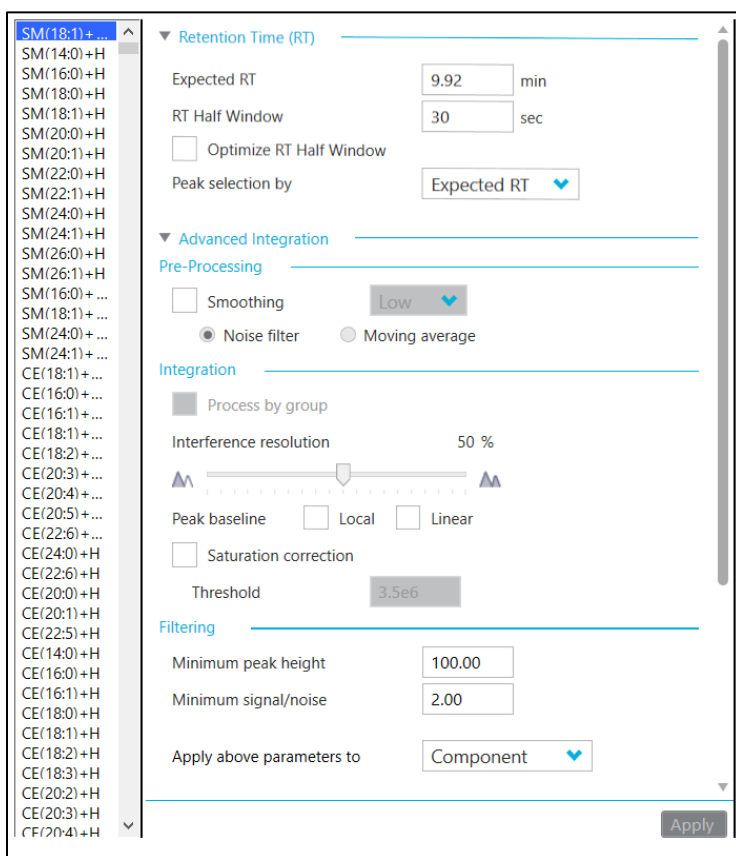

Figure 8-1. Integration defaults for data processing the targeted lipid profiling data.
2. Click Process Method then Edit Embedded Method. Click Integration in the left hand panel. Set the integration defaults as shown in **Figure 8-1**.